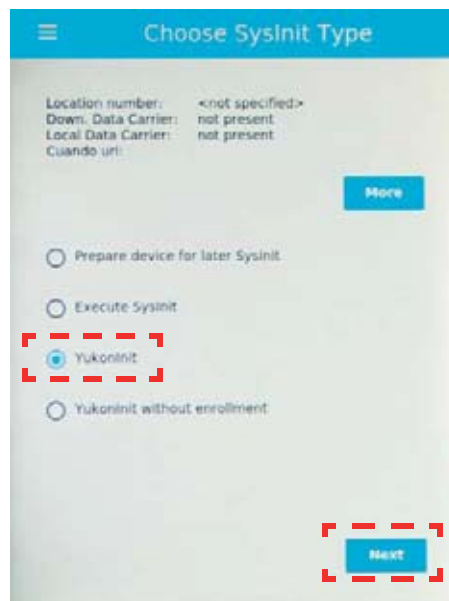

Figure 4-4 BAT - Pre-Initialization, Choose Sysinit Type
- Step 6** Choose <Yukoninit> (see **Figure 4-4**), and click on <Next>.